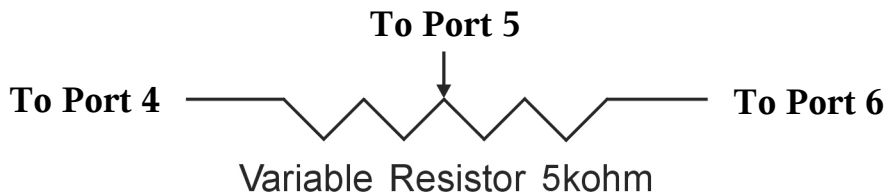

Fig. 11
- (ii) Prepare a 5kohm variable resistor and use wires from port 4, 5 and 6 as shown in Fig. 11.